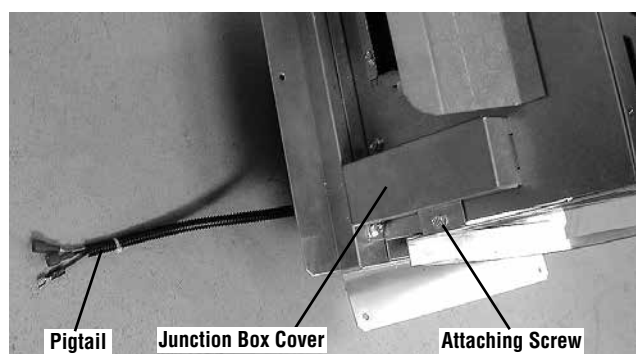

Figure 23 - Bottom of Termination
- Either use the integrated junction box, or position an electrical junction box (not provided) within reach of the termination wiring pigtail (see *Figure 23 on Page 21*). Route the pigtail to the junction box as the termination is installed.
- Remove the junction box cover from the termination by removing the attaching screw (see **Figure 23**).